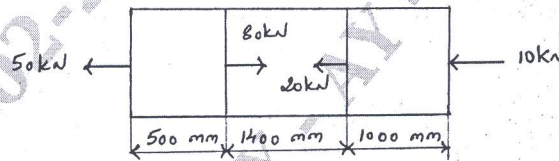

Fig.Q1(b)
b. A brass bar having cross-sectional area 300 mm^2 is subjected to axial force as shown in Fig.Q1(b) below. Find the total elongation of the bar. $E = 84 \text{ GPa}$.